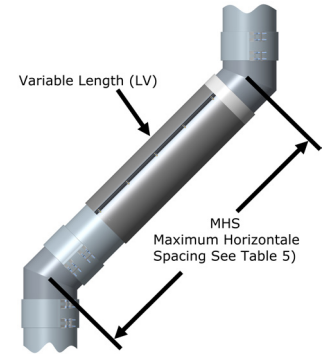

Figure 36b - Maximum Spacing between supports for Offset
- 2- The length of the offset is determined by strength considerations. The maximum distance between supports is given in Table 7 and Figure 36b, and is applicable to all horizontal and sloped orientations